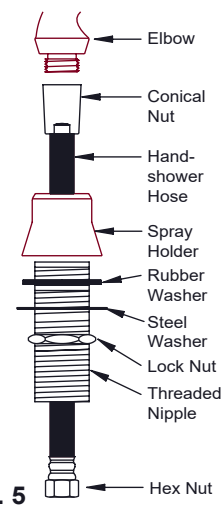

Fig. 5
-Remove threaded nipple from spray holder. Insert threaded nipple up through deck, keeping lock nut, steel washer and rubber washer facing up towards deck from below. (See fig. 5)